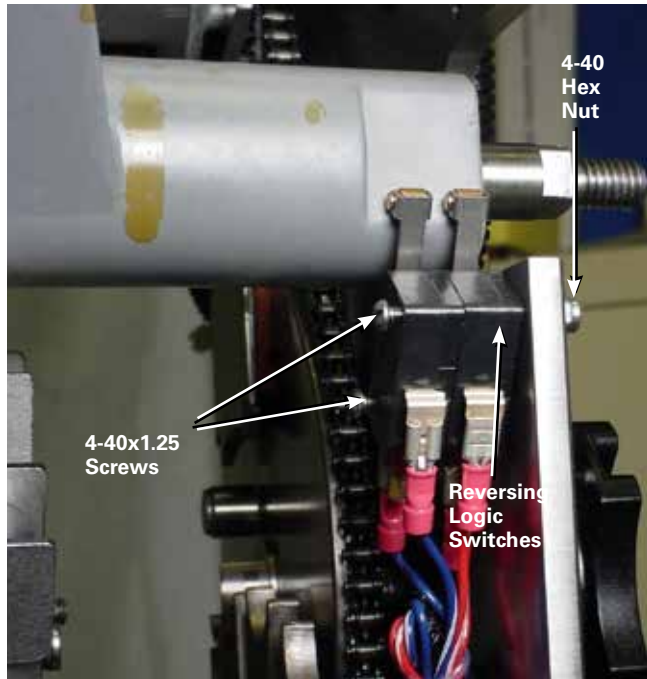

Figure 18. Reinstalling logic switches.
- Place the mounting hardware onto the reversing logic switches and fasten to the tap-changer front plate. While holding a small screwdriver (or 5/32" Allen wrench), tighten the nuts to a torque of 4–5 in-lbs (0.5–0.6 Nm). See Figure 18.